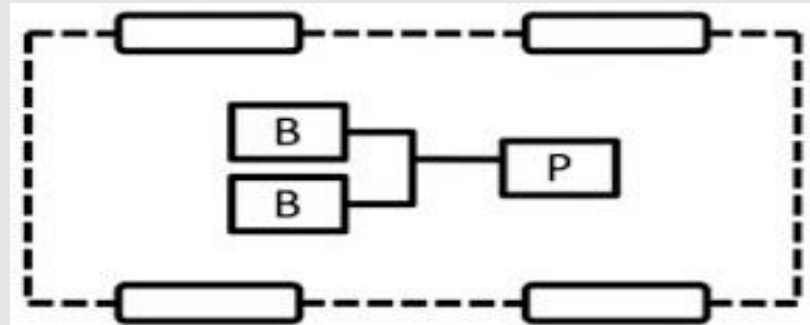

Figure 4b: EV configuration with two battery sources
- **Configuration 2:** Instead of two batteries, this design uses two different batteries, Figure 4b. One battery is optimized for high specific energy and the other for high specific power.